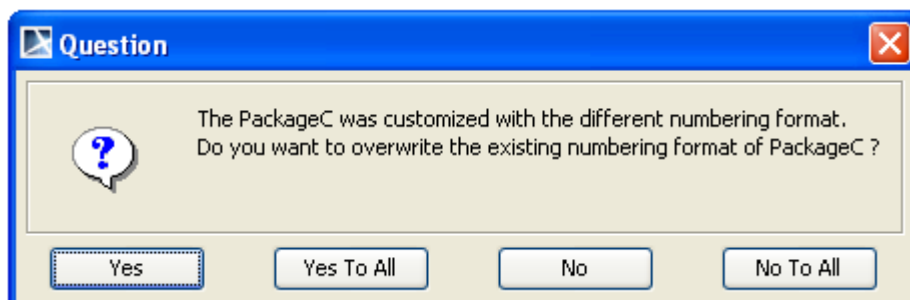

Figure 143 -- Question Dialog - Recursive Numbering Confirmation
7. You can click the **Recursive Renumber** button to renumber all requirements that are recursively contained inside the selected node. The Numbering Style, Prefix and Separator, which are defined in the selected node, will be used for recursive renumbering. If the Package-specific Numbering Configuration of the lower-level nodes exists, then a message box will open to ask whether to replace the existing values with the values of the selected node (Figure 143).